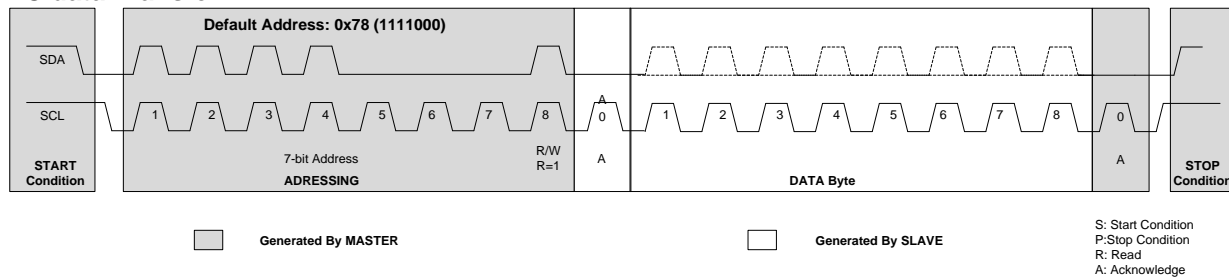

Figure 3 - I2C standard communication protocol
Masters and Slaves can act as transmitters or as receivers depending of the information which needs to be sent or read. A transmitter is the device which sends data to the I2C bus. The Master transmitter normally sends requests to the slave, while the Slave transmitter normally replies to the Master by sending requested information. The Receiver is device which receives data from the I2C bus. I2C standard protocol is presented in Figure 3.
START condition (S): Each data transfer starts with the start condition. This is always sent by the Master. This start condition acts as a signal to all I2C connected devices giving information that there will be something transmitted. The Start condition is defined as a transition of from HIGH to LOW on SDA line when the SCL line is HIGH (See Figure 3).
STOP condition (P): Data transfer stops when the stop condition occurs; this is also generated by a Master when a data transfer has finished. The Stop condition is defined as transition from LOW to HIGH on SDA line when SCL line is HIGH (See Figure 3).
Valid data: Data is always transmitted in bytes (8 bits), starting with the MSB (most significant bit). One data bit is transferred with each clock pulse on the SCL line. The transmitted data is valid (after generating start condition) only during HIGH period of the clock (on the SCL line) and data changes can occur during LOW period of clock (See Figure 3).
Figure 3 shows a complete data transfer. After generating the start condition, the Master also sends the Slave address with data direction bit (R/W), which gives information about read or write transfer. Addressed slave replies to this always with acknowledge (A) bit first. Now the unlimited numbers of data (bytes) can be transferred (every transferred byte needs to be confirmed with acknowledge bit). This transfer can be stopped by the master with generating the stop condition. If master wishes to communicate also with other slave address, it can generate also a second start condition without stopping the first one.